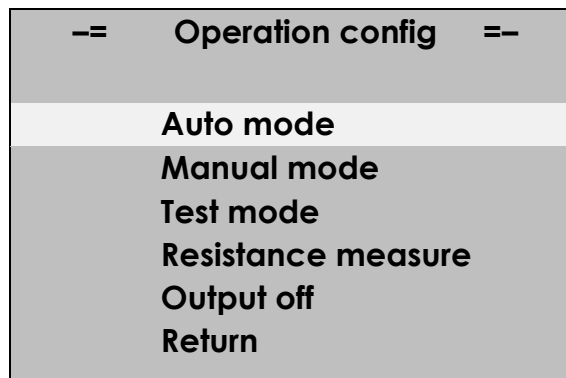

Figure 3.5
3.4.4 «**Operation config**» menu consists of following commands (Figure 3.5):